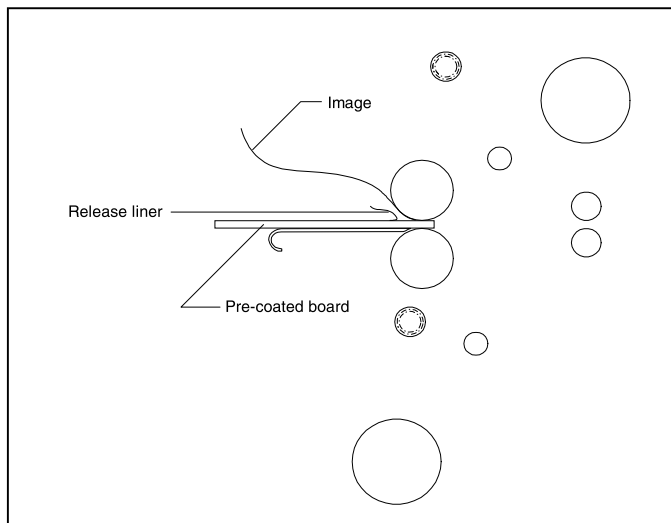

Fig. 38
TIPS FOR MOUNTING PRE-COATED BOARDS (Figure 38)
1. Load the laminator as illustrated in Figure 38.